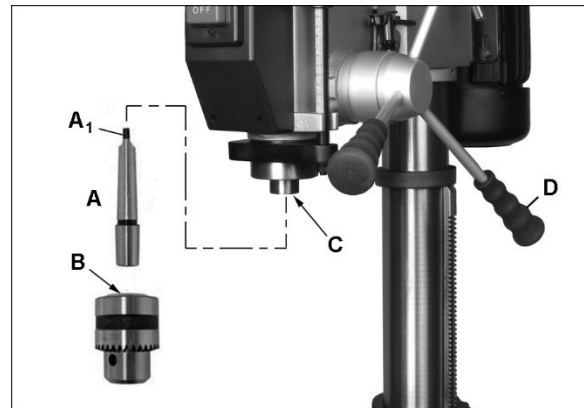

Figure 6-2: installing chuck and arbor
1. Install 3 feed handles into hub (D, Figure 6-2).
1. Thoroughly clean arbor (A, Figure 6-2), chuck (B) and spindle (C). Any grease or residue in these areas can cause the pieces to separate and create a safety hazard as well as damage to the tool.
4. Push chuck (B) by hand onto arbor (A), and slide assembly firmly up into spindle (C).